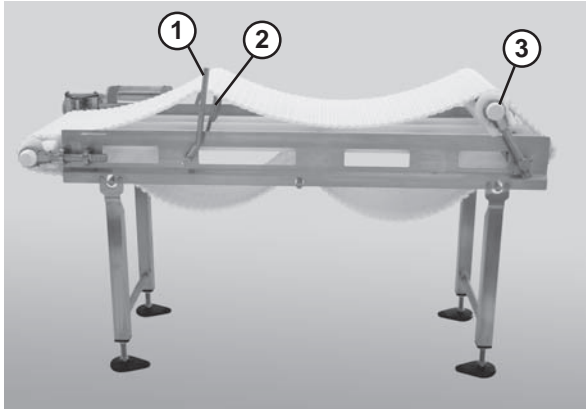

Figure 49
2. Use the lifter handle (**Figure 49, item 1**) to raise the lifters (**Figure 49, item 2**) and raise the tip up tail (**Figure 49, item 3**).